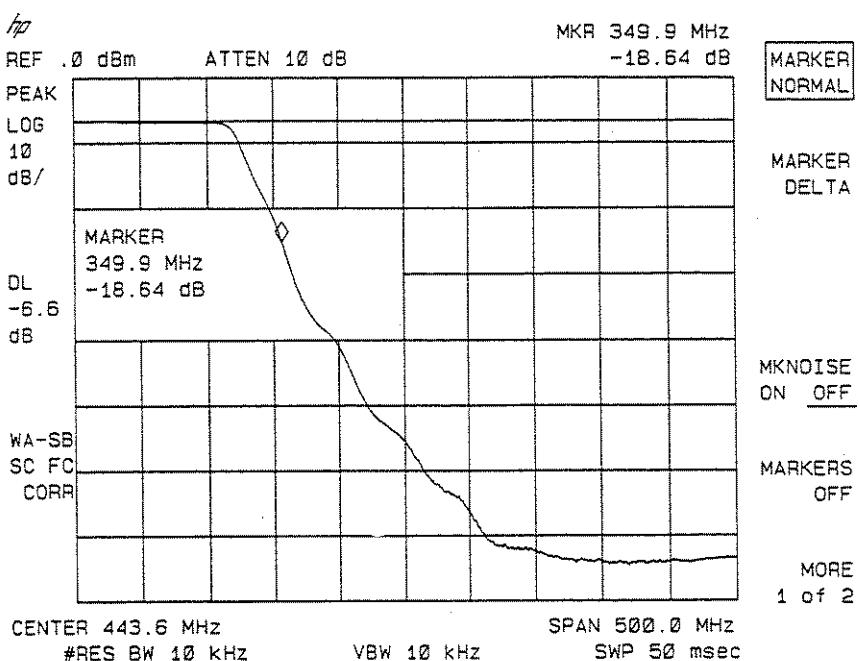

Figure 2-42. Measure the Rejection Range with Delta Markers
9. To measure the rejection of the filter at a given frequency, press **MKR**, and enter the frequency. For example, enter 350 MHz. The marker readout displays the rejection of the filter at 350 MHz (see Figure 2-42).